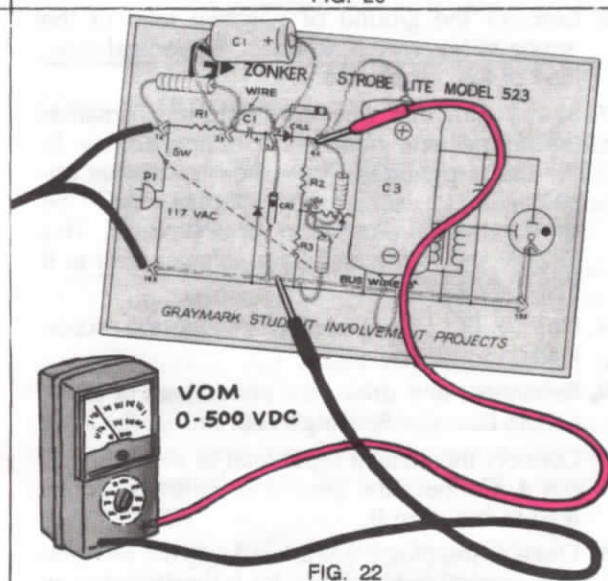

FIG. 22
- _____b. Connect a clip lead or a piece of bus wire (bare copper) between pins 2 and 3. (Refer to Figure 22.)
- _____c. Connect the positive (+) lead (lead nearest to "+") of capacitor C3, 22 mfd, 450 WV, electrolytic, to pin 4 as shown in Figure 22. Connect and solder the other lead (-) to bus wire B. The purpose of this capacitor is to provide a load for the voltage doubler circuit in order to perform this test.
- _____d. Adjust the VOM to the 0-500-volt DC range. Connect the positive (+) meter lead to pin 4 and connect the negative (-) meter lead to bus wire B. Refer to Figure 22.